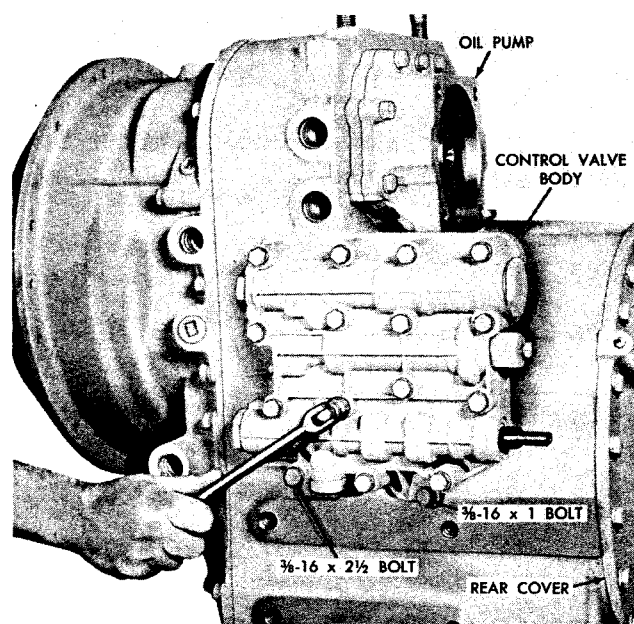

Fig. V-7. Removing (or installing) valve body bolts
(1) Remove 16 bolts and 16 lock washers from the valve body assembly (fig. V-7).